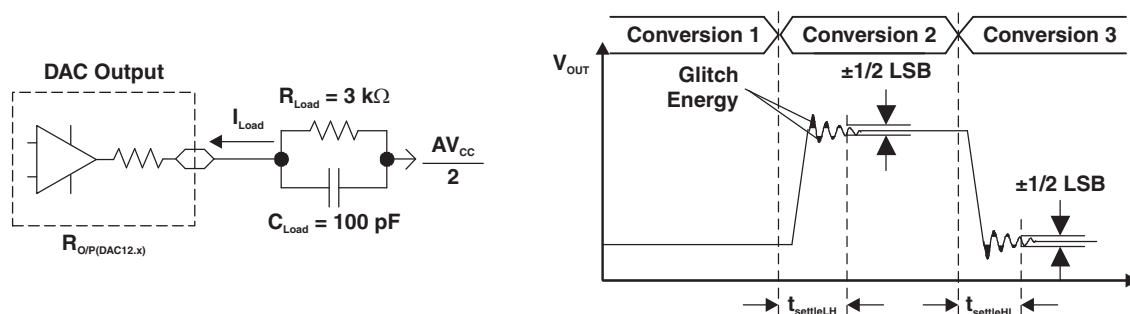
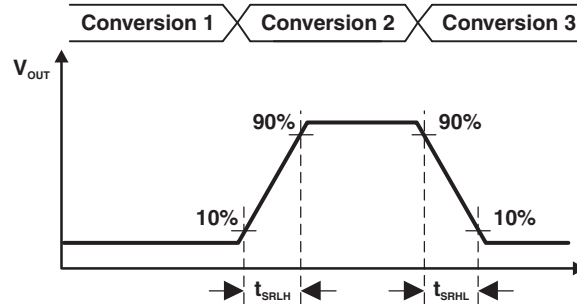

Figure 5-21. Settling Time and Glitch Energy Testing
Figure 5-22. Slew Rate Testing
V_{REF} = V_{CC}, DAC12IR = 1 (see Figure 5-21 and Figure 5-22), over recommended ranges of supply voltage and operating free-air temperature (unless otherwise noted)
- (1) R_{Load} and C_{Load} connected to AV_{SS} (not AV_{CC}/2) in Figure 5-21.
- (2) Slew rate applies to output voltage steps ≥ 200 mV.